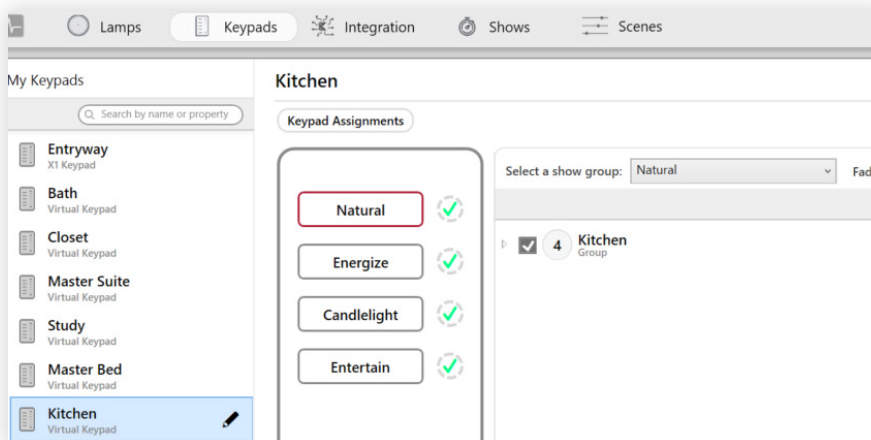

fig. 59
- 2 Go to Device Control > Keypads and select the keypad at left. See fig. 59.